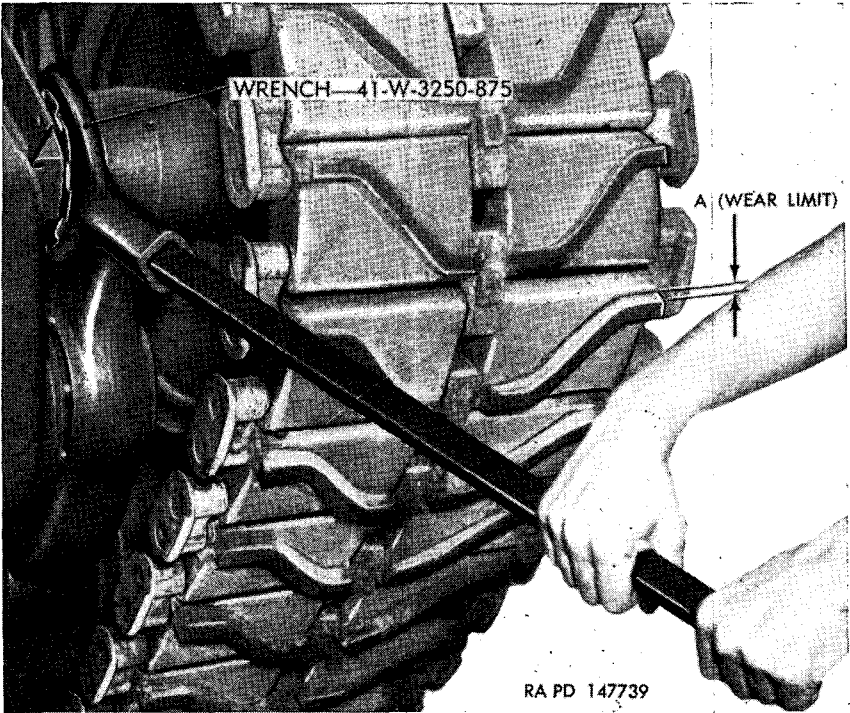

Figure 252. Adjusting track tension.
Remove the cotter pin from the adjuster lock nut (fig. 255), and back off the lock nut approximately one-half inch using wrench 41-W-1436-25. Separate the lock ring and adjuster mating serrations by sliding the adjuster toward the lock nut with the hands. Move the adjuster until there serrations are sufficiently separated to allow the adjuster to be turned. Adjust the track tension by rotating the idler wheel adjuster with wrench 41-W-3250-875 (fig. 252). Pull up on the wrench to tighten the track and push down on the wrench to loosen the track. After the track tension has been checked ((1) above), and to see that it is properly adjusted, move the adjuster toward the lock ring until the serrations are com-
(a) *Track links.* Measure height of grouser above surface of link ("A," fig. 252). When new, the grouser height on T80E6 steel track is $1\frac{1}{2}$ inches. The minimum height (wear limit) is seventeen-thirty-seconds of an inch. Replace link (*j* below) when this limit is reached.